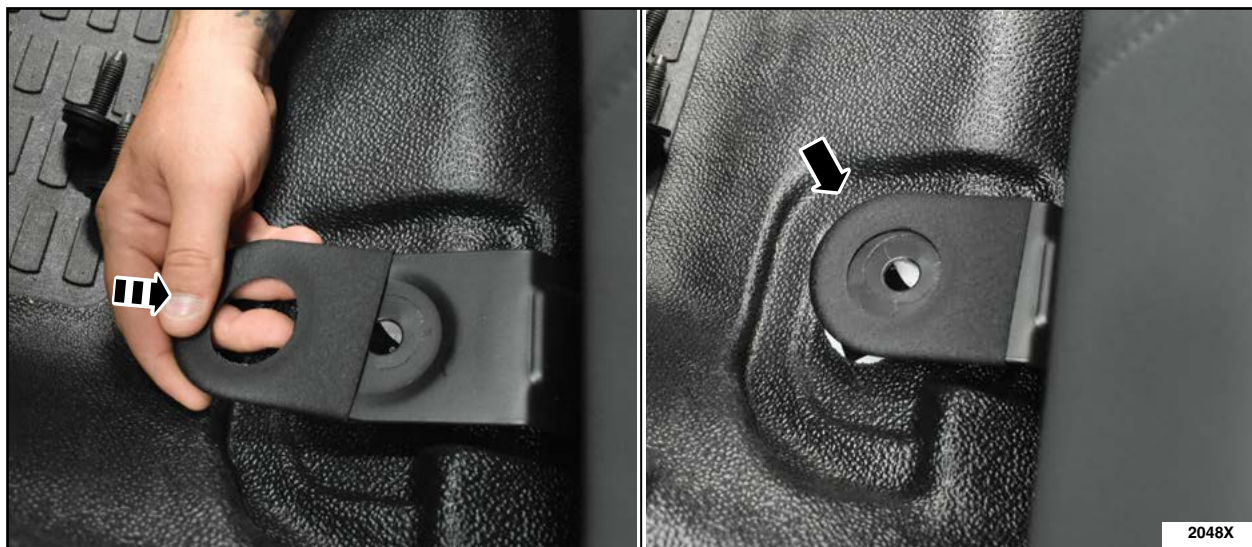

FIGURE 10
2. Install a thermal protective sleeve over both front seat track legs as shown in Figure 10.